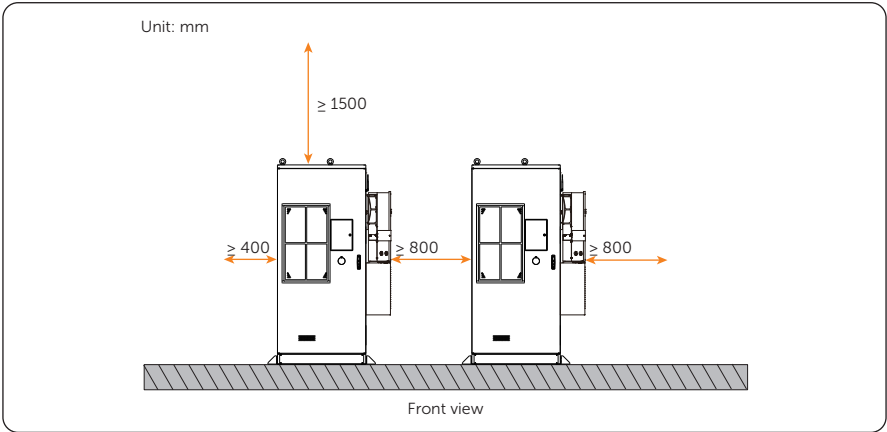

Figure 4-8 Two and more cabinets
- Single cabinet (see Figure 4-8)